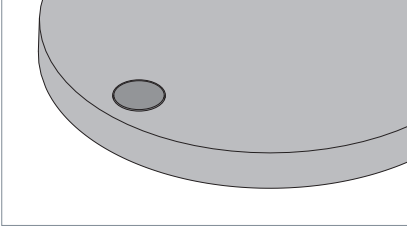

Fig. 8: Button.
- ▶ Briefly press the button, see Fig. 8.
- ▶ Press the button and keep it depressed, see Fig. 8.
- ▶ Press the button and keep it pressed for ten seconds, until the luminaire starts flashing at regular intervals, see Fig. 8.